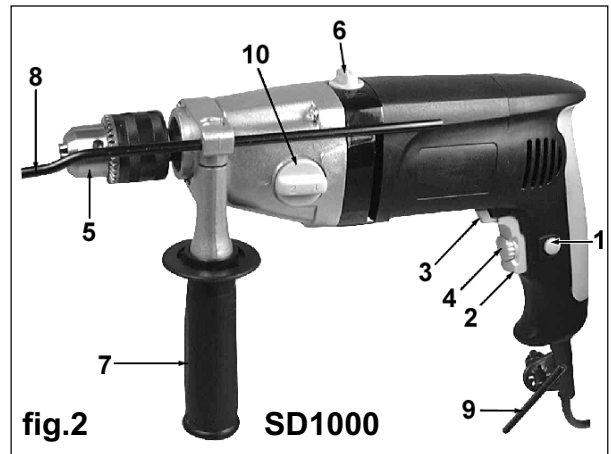

fig.2 SD1000
- 3.2.6. **Two speed gearbox.(SD1000 only)** The SD1000 also incorporates a 2 speed mechanical gearbox which used in conjunction with the other speed controls adds additional versatility to this model. To select the lower speed turn the gear selector knob so that '1' is adjacent to the arrow on the casing. To select the higher speed turn the gear selector knob so that '2' is adjacent to the arrow on the casing. (See fig.2 item 10) It may be necessary to rotate the chuck by hand slightly whilst using the gear selector in order to get the gears to mesh.
SD1000. To use the drill's hammer function turn the selector knob on top of the drill (fig.2 item 6) so that the arrow moulded into it points towards the hammer symbol. To disengage the hammer function turn the selector knob back to the drill bit symbol